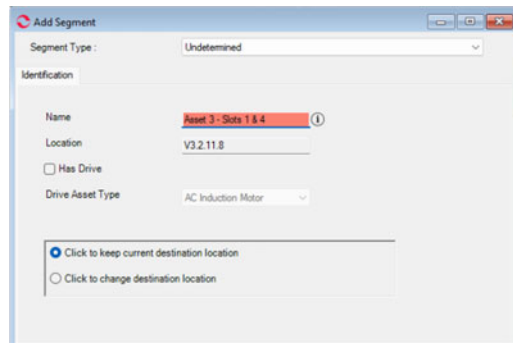

Figure 26: Add Segment #3
2. Fill in the segment name in the Name text box. For our example, we will name it Asset 3 - Slots 1 & 4 (Figure 26).